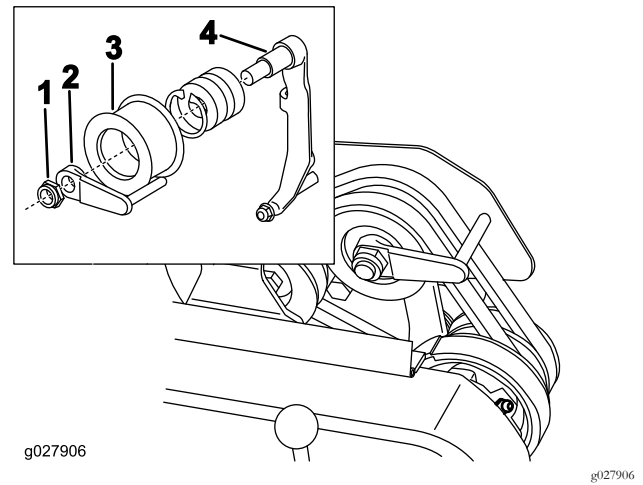

Figure 41
8. To push or pull the machine easier without starting the engine, adjust the belt guide (Figure 41, inset) as follows: